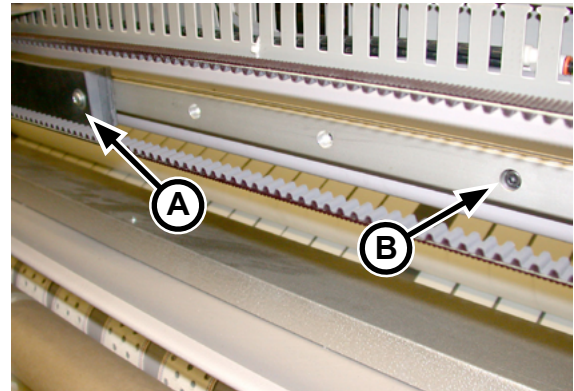

Figure 7-7: Remove one screw each from the rubber block and the spreader rail.
3. Remove a screw from the rubber block (Figure 7-7, A) and then push down on the block to pivot it out of the way.
4. Remove the upper rail screw closest to the rubber block (Figure 7-7, B) and then push the rail down or pull it up as necessary to gain clearance.